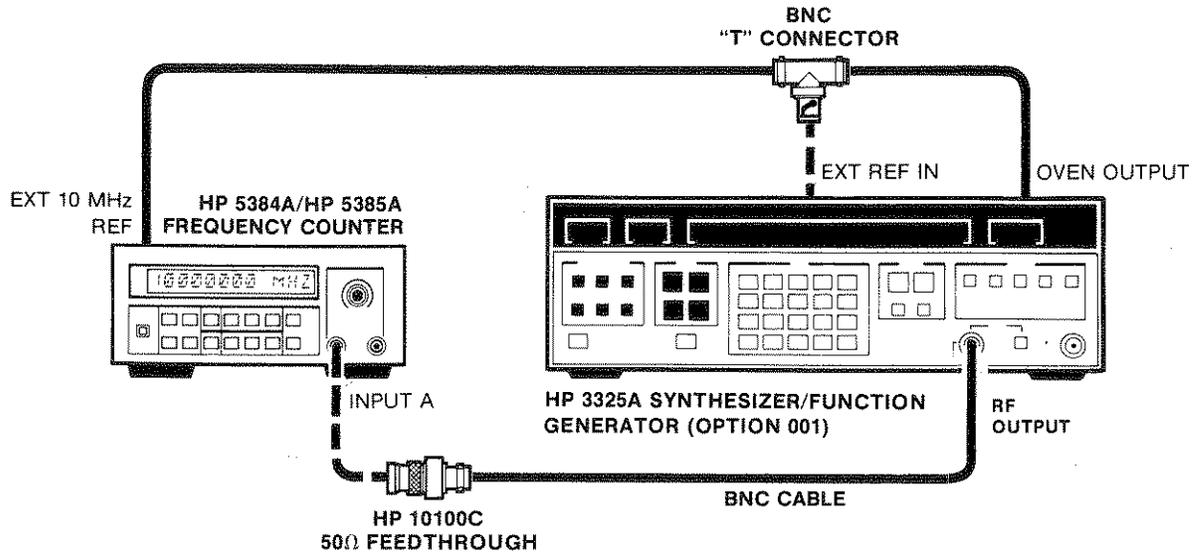

Figure 4-6. Channel A Filter and Attenuator Test Setup
- b. Connect the HP 3325A Synthesizer/Function Generator to the HP 5384A/HP 5385A Channel A input as shown in Figure 4-6.